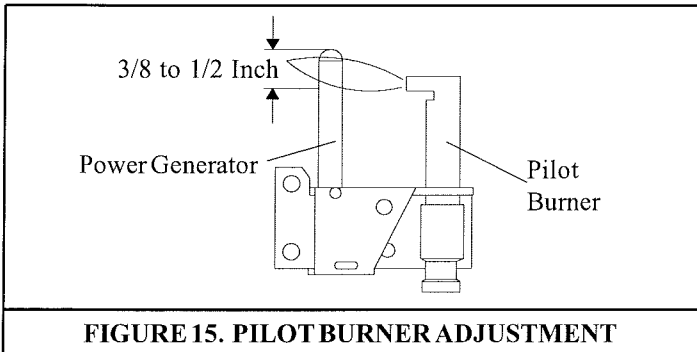

FIGURE 15. PILOT BURNER ADJUSTMENT
2. Adjust pilot key to provide properly sized flame. See **Figure 15 for properly sized flame.**